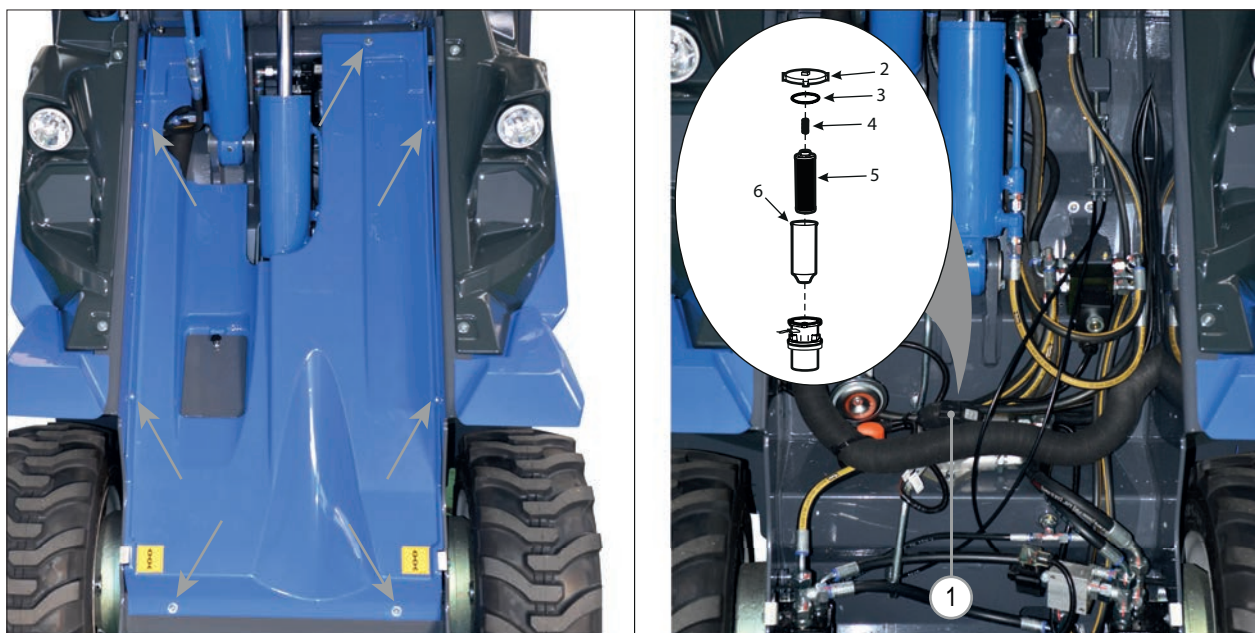

FIG. 44
- 3) Remove the front panel by loosening the screws that secure it to the frame (see FIG. 44).
- 4) Remove the filter cover by rotating the cover. It may be necessary to use a wrench to loosen the cover (FIG. 44 - Ref. 1).
- 5) Remove the spring (FIG. 44 - Ref. 4), and the filter element (FIG. 44 - Ref. 5) from the plastic sleeve (FIG. 44 - Ref. 6).
- 7) Reinstall the spring and inspect the filter cover O-ring for any signs of wear or damage. This O-ring is located in a groove at the top of the filter body (FIG. 44 - Ref. 3). Replace the O-ring in case of wear or damage.
- 8) Reinstall the filter cover (FIG. 44 - Ref. 2) and secure it.